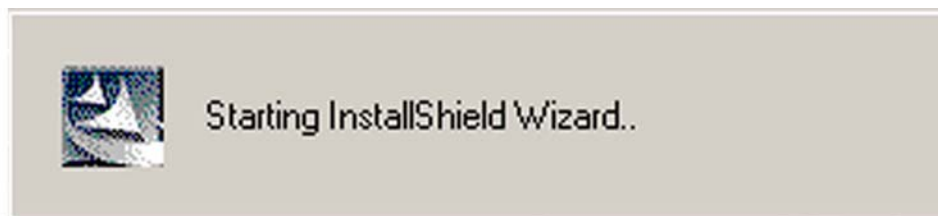

Figure 6-13: Audio Driver Install Shield Wizard Starting
Step 4: Once you double click the **Setup** icon, the install shield wizard for the audio driver starts. See **Figure 6-13**.